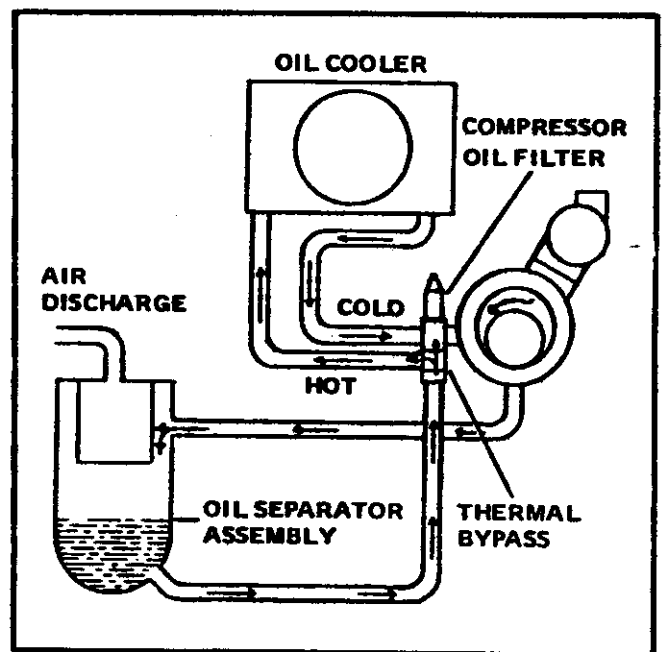

Figure 1-2. Oil Cycle Schematic Diagram
b. **OIL CYCLE.** (See figure 1-2.) After oil is separated from the compressed air, it accumulates in the receiver-oil separator. The discharge air pressure forces it into the thermal bypass valve which senses the temperature of the oil. When the oil is cool, it bypasses the cooler and is passed directly into the oil filter; when the oil warms up, it is directed to the oil cooler for heat dissipation and then into the oil filter. The oil is then passed into the compressor where it is injected under pressure into the rotor bore compartment and to the bearing and end faces.